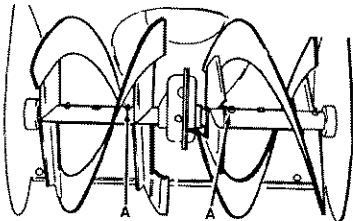

Figura 63
1. **Auger Shaft** - Using a hand grease gun, lubricate the auger shaft zerk fittings (A) every ten (10) operating hours. Each time a shear bolt is replaced, the auger shaft MUST be greased. See Figura 63. See **To Replace Auger Shear Bolt** in the **Service and Adjustment** section.